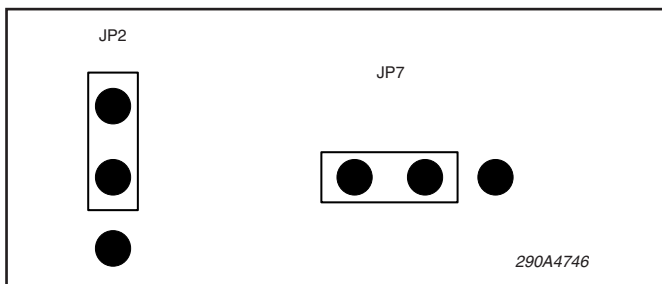

Figure 6.
a. See figure 6. Ensure that jumpers JP2 & JP7 are installed as indicated.